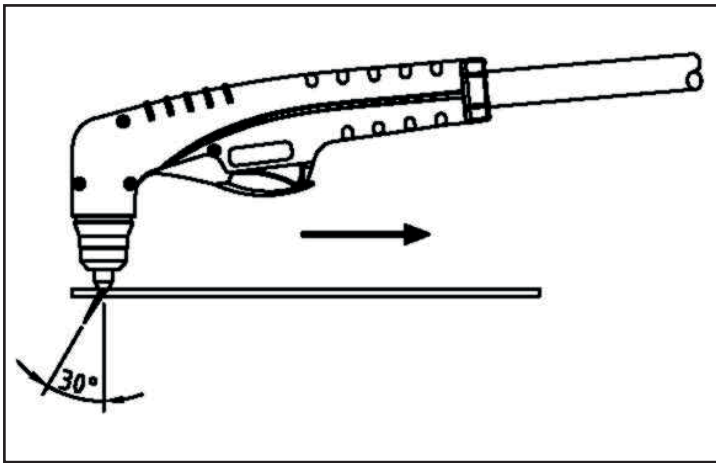

Figure 17
- Once on, the main arc remains on as long as the control switch is held down, unless the torch is withdrawn from the work or torch motion is too slow. Keep moving while cutting. Cut at a steady speed without pausing. Maintain the cutting speed so that the arc lag is about 30° behind the travel direction. Fig. 17. If the cutting arc is interrupted, and the torch trigger is still pressed, the pilot arc comes back on automatically for 3 seconds.